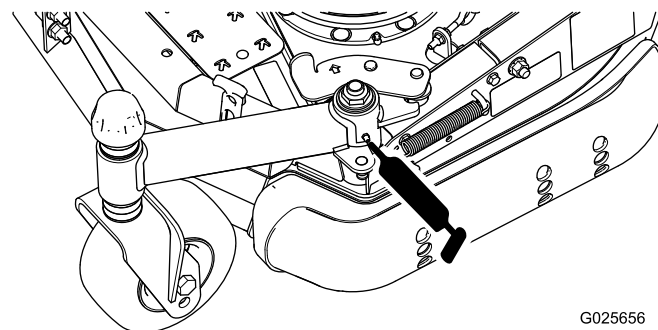

Figure 15
- Pivot de bras pivotant repliable (1) (Figure 15)